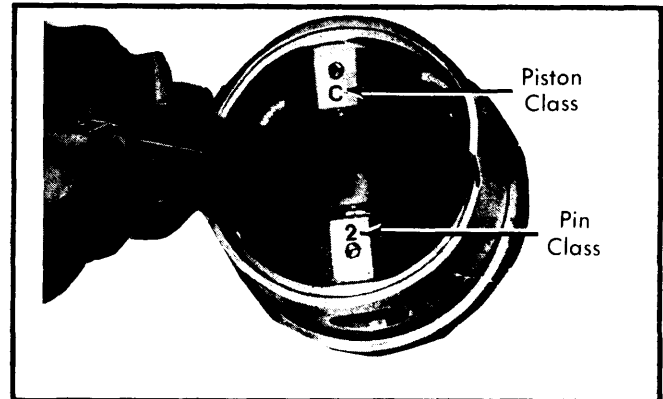

Fig. 8 Identifying Marks for Piston & Pin Classes
3) Subtract the diameter of each piston from the diameter of its cylinder. Clearance should be .0157-.0236\" (.40-.60 mm). Pistons, piston pins and bores vary by class as to size. Class identification numbers and letters for pistons and pins are found inside the piston on piston pin bore casting (underneath side of piston). See Fig. 8. Cylinder blocks are also stamped as to cylinder bore class.